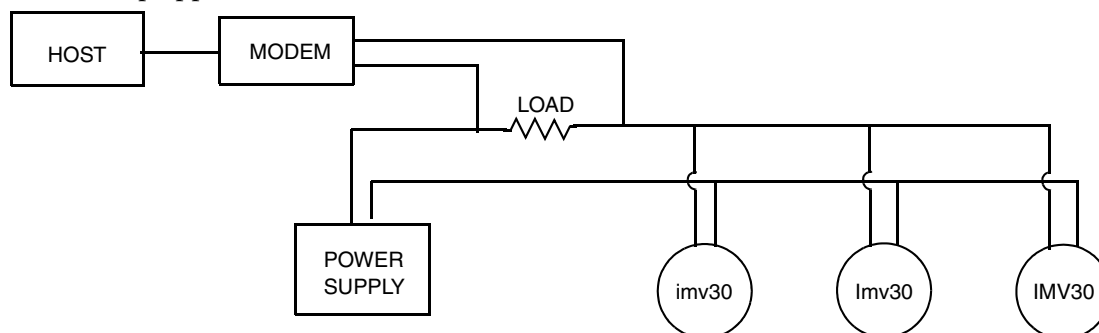

Figure 25. Typical Multidrop Network
Figure 25 shows a typical multidrop network. Do **not** use this figure as an installation diagram. Contact the HART Communications Foundation, (512) 794-0369, with specific requirements for multidrop applications.